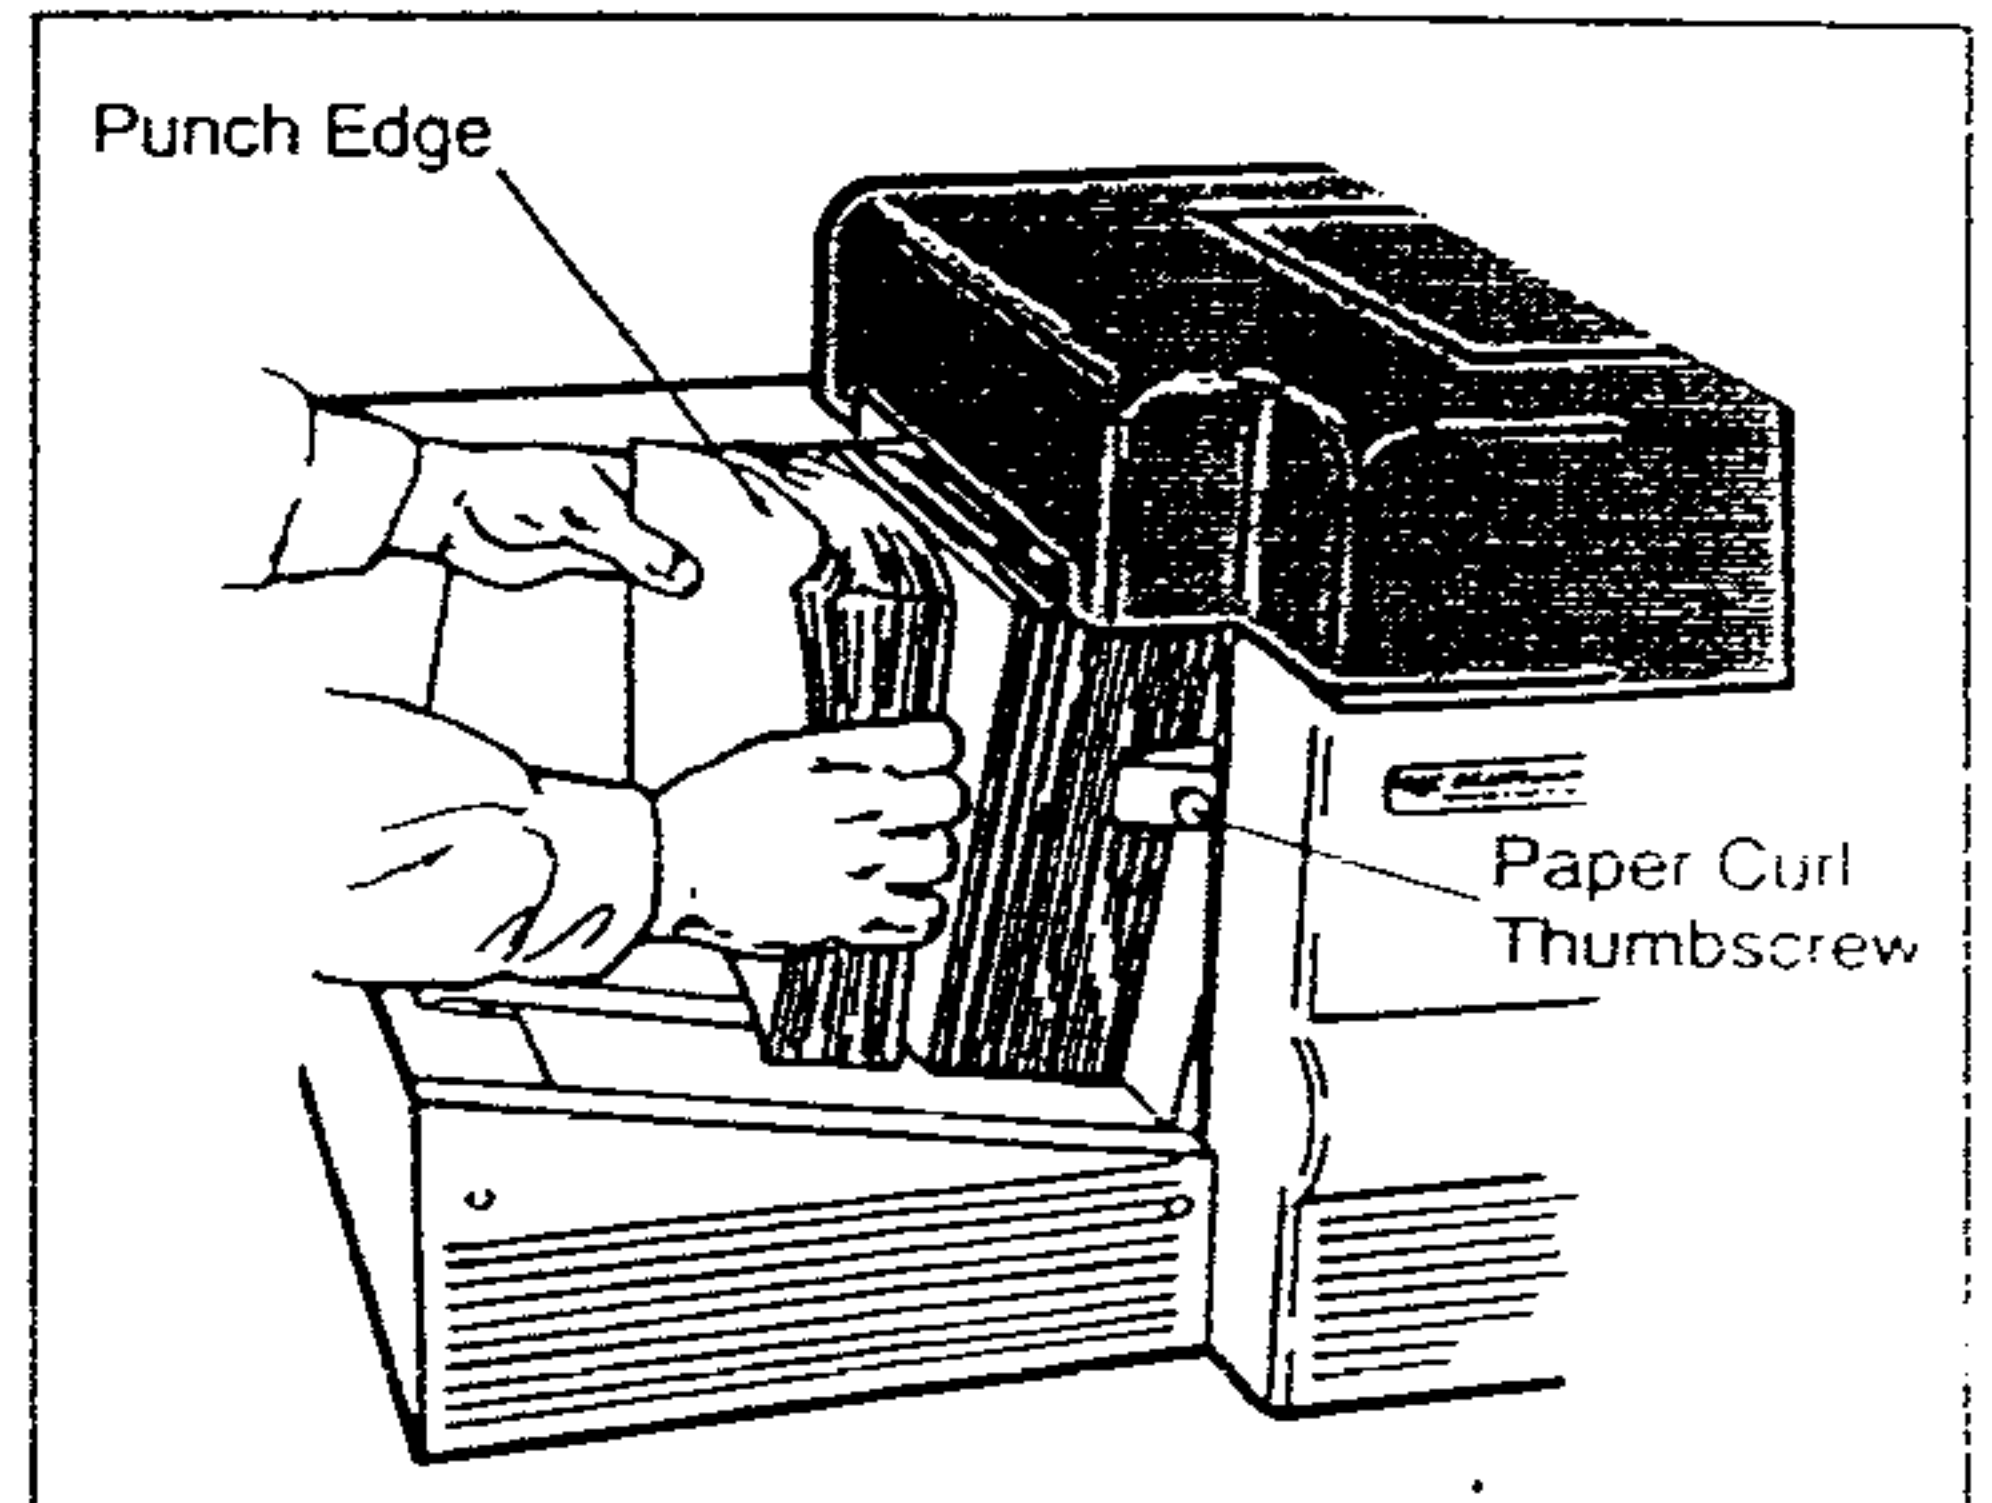

Figure 9
10. Load additional sheets into the Feed Hopper, making sure to orient them the same way as the first stack (see Figure 9).
12. Rotate the Paper Curl Thumbscrew shown in Figure 9, so the small metal plate is right next to the paper stack, but not touching it.